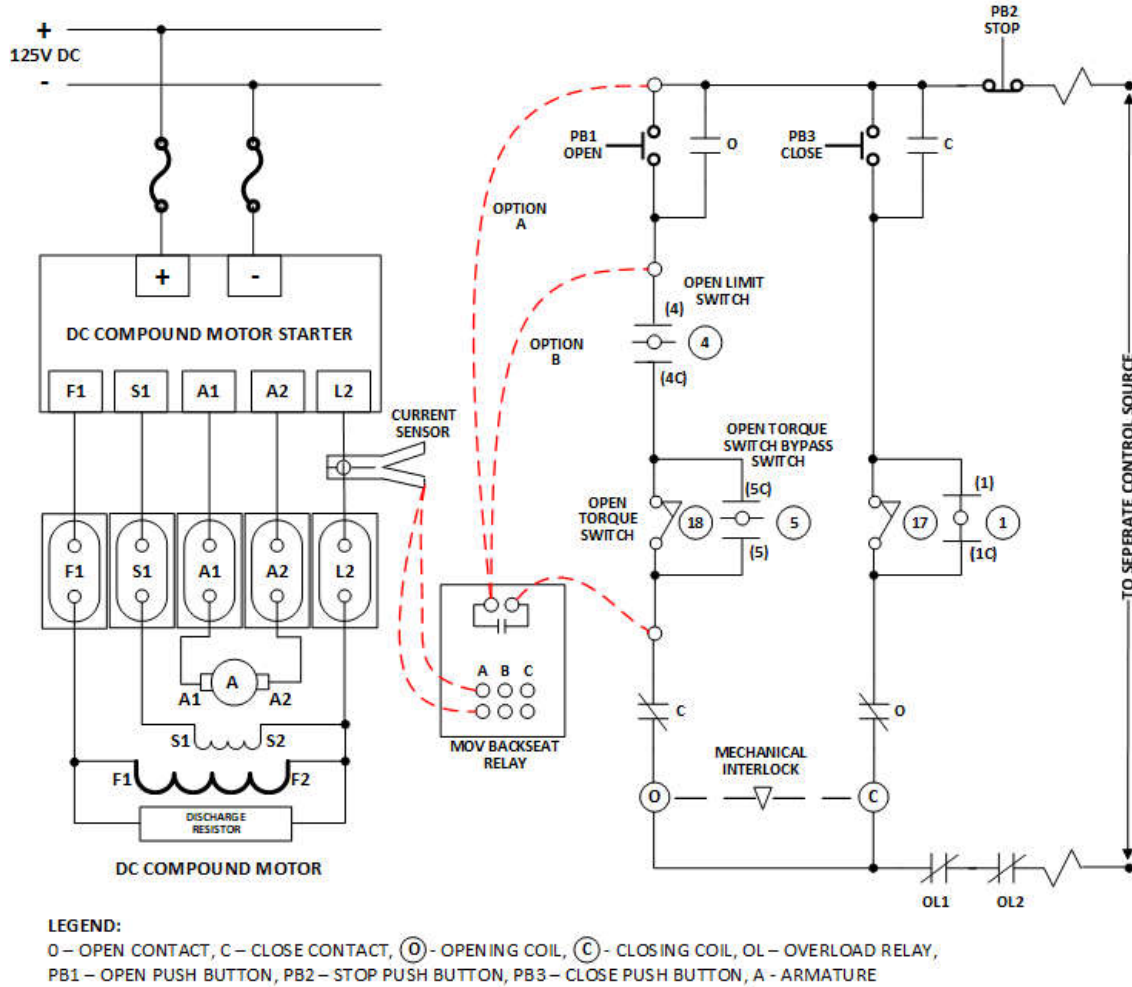

Figure 2: Typical Connection Diagram for DC
- 5.3 Connect test leads from the yellow relay contact jacks to parallel with the limit switches in the motor control cabinet. Typical connection points are shown in Figure 2. Option A gives full control to the relay. With option B, the relay just bypasses the limit switches.
- Motor Start From – Select the connection option as described in Figure 2. When B-Control Panel is selected, the probe failure detection at the start of run will be disabled.
- FAILED PROBE TRIP will occur if the probe became disconnected during the operate phase or if no current was detected at motor start from this device (Figure 2 option A).